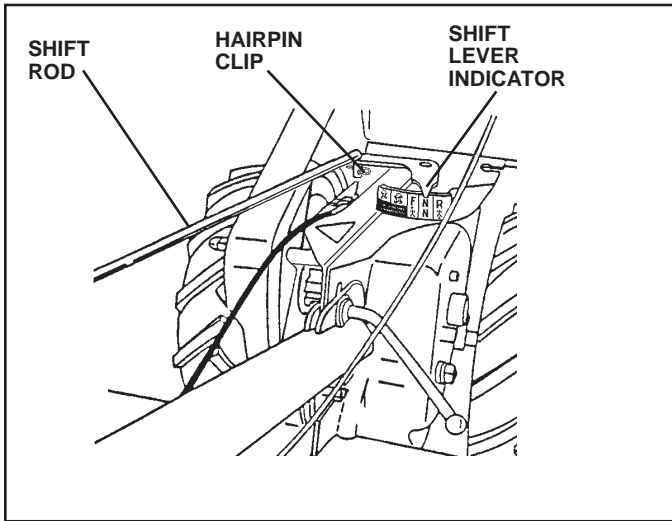

Fig. 6
CONNECT SHIFT ROD (See Fig. 6)
- Make sure shift lever indicator is in “N” position (See Fig. 6)